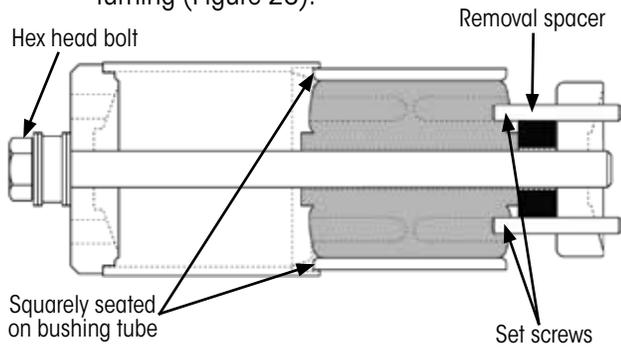

Figure 23: Wide Bushing removal
E. **Thread** the rear drive plate putting the set screws into the bushing voids (open areas in bushing) to prevent the rear drive plate from turning (Figure 23).